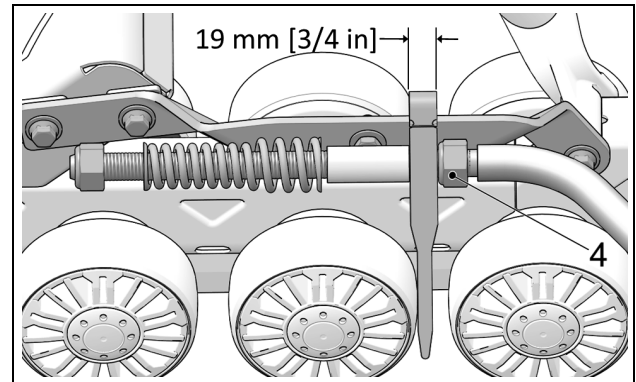

Figure 12
- Set nut (4) to obtain a distance of 19 mm between nut and stabilizing arm guide as shown on Figure 12.